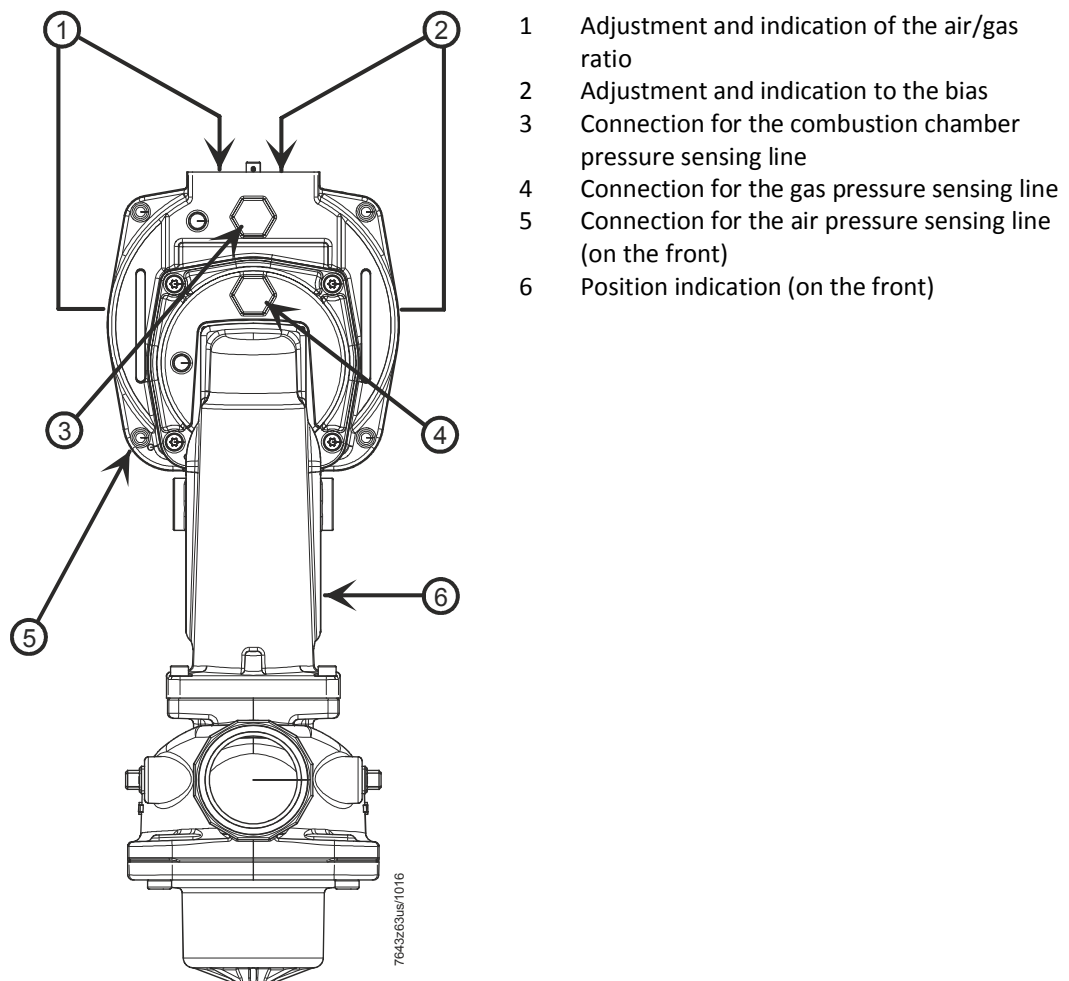

Figure 6. SKP75.xxxUx Connections and adjustments
4. Return to low fire position and measure the CO2 or O2 content in the flue gases. If necessary, correct the setting by adjusting screw 2 (figure 6) until optimum values are obtained.